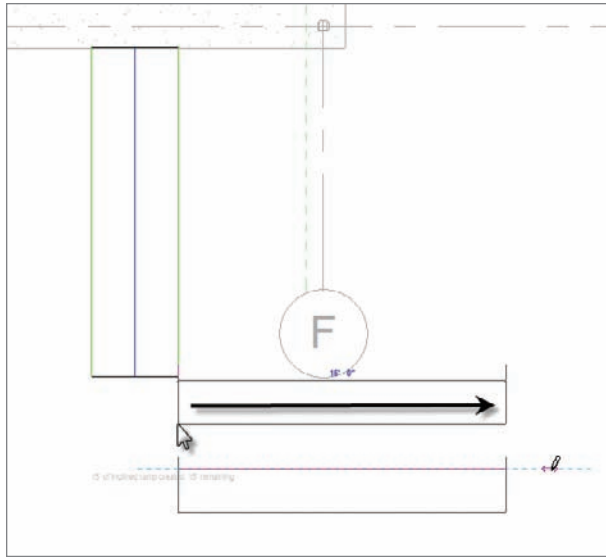

FIGURE 10.86 The second leg of the ramp
18. Pick a point about 6'-0" below the end of the ramp in alignment with the right boundary, as shown in Figure 10.86. After you pick the second point, the view should read: "30' of inclined ramp created, 0 remaining."
19. Move your cursor to the right until the ramp stops (see Figure 10.86).